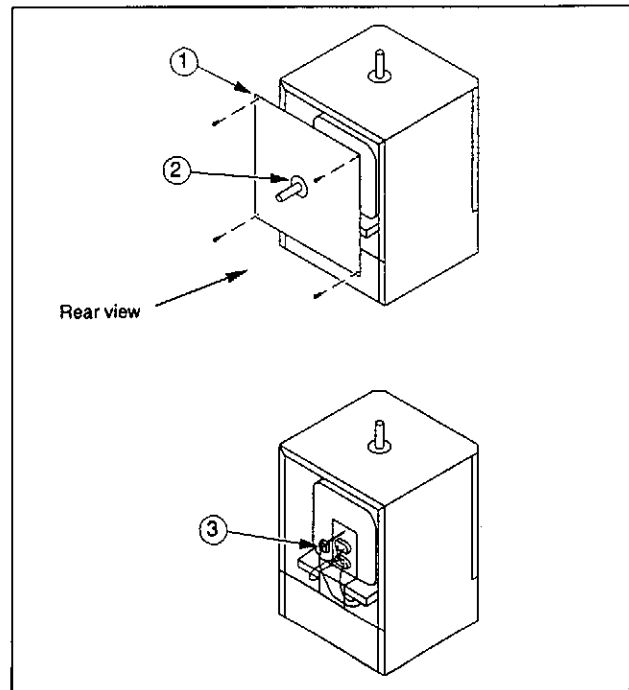

Figure 7. Thermocouple Replacement
Refer to Figure 7 as you perform the following procedure:
1. Remove any atmosphere piping connected to the atmosphere pipe (item #2 in Figure 7).
3. Remove the screws from rear panel corners. Remove the rear panel (item #1 in Figure 7).
6. Slide out head and old thermocouple (item #3 in Figure 7).